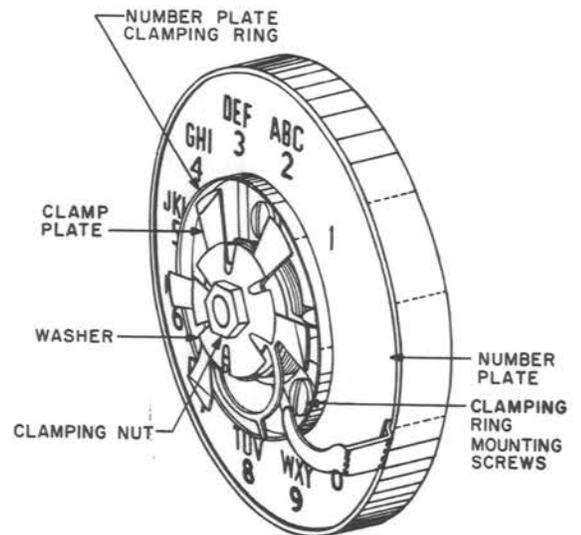

Fig. 19 — 6-Type Dials With Plastic Fingerwheel Removed
(12) Remove the clamping nut, shown in Fig. 19, with the No. 311 wrench and lift off the washer and clamp plate.
(13) Remove the clamping ring mounting screws with the C screwdriver, and remove the number plate clamping ring and the number plate.
(14) Clean the number plate in accordance with (9).
5. To add procedures covering cleaning number plates of 6-type dials equipped with plastic fingerwheels [3.01 (11) through (16)].
6. To add Fig. 19.